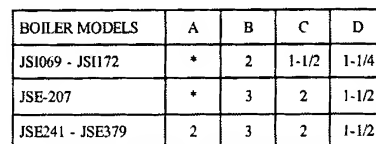

FIGURE 12: STEAM BOILER PIPING FOR GRAVITY RETURN
Figure 12 shows recommended near boiler Piping for most common types of gravity return steam systems. Additional information on steam system design may be found in *Installation Guide for Residential Hydronic Heating Systems* (Pub. #200) published by the Hydronics Institute in Berkeley Heights NJ.
- 5) Connect system supply and return to boiler. See Figure 12. All JSI boiler models use one supply riser and one return tapping. All JSE boiler models use two supply risers and one return tapping with the exception of model JSE207 where use of second supply riser is optional.